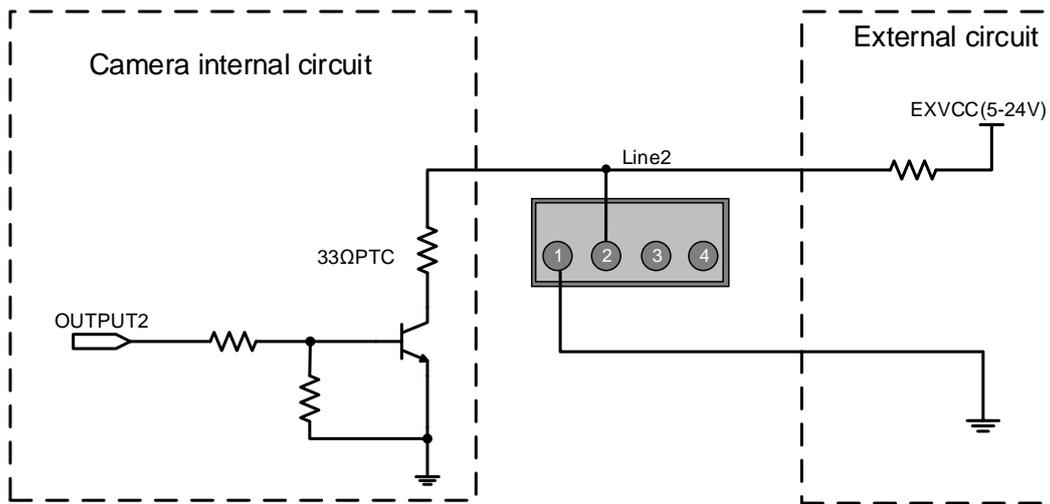

Figure 7-15 Internal equivalent circuit of camera when Line2 is configured as output
- When Line2/3 is configured as output, the internal equivalent circuit of camera is shown in Figure 7-15, take Line2 as an example